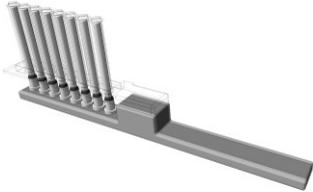

Figure 10. Air-drying the magnetic beads.
22. Remove the IndiMag Handheld with the rod cover and attached magnetic beads from **column 3** and place them upside down on a flat, stable surface. Ensuring it is positioned securely so it cannot tip over (Figure 10). Allow the magnetic beads to air dry for 10 minutes.